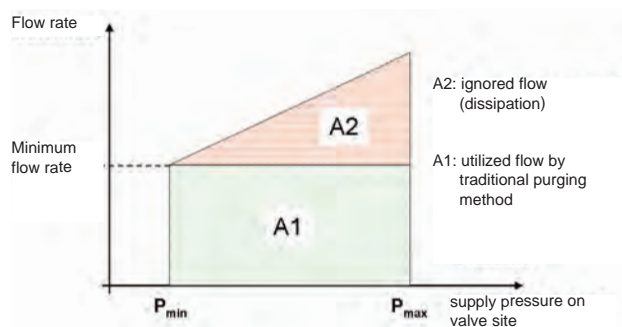

Figure 1: Comparison of the purging medium consumption
- In contrast to the traditional method, with the **integrating** purging method the actual volume flow at the Ex-p enclosure outlet is measured and integrated. This is a safe and economical purging method. See also Fig.1.